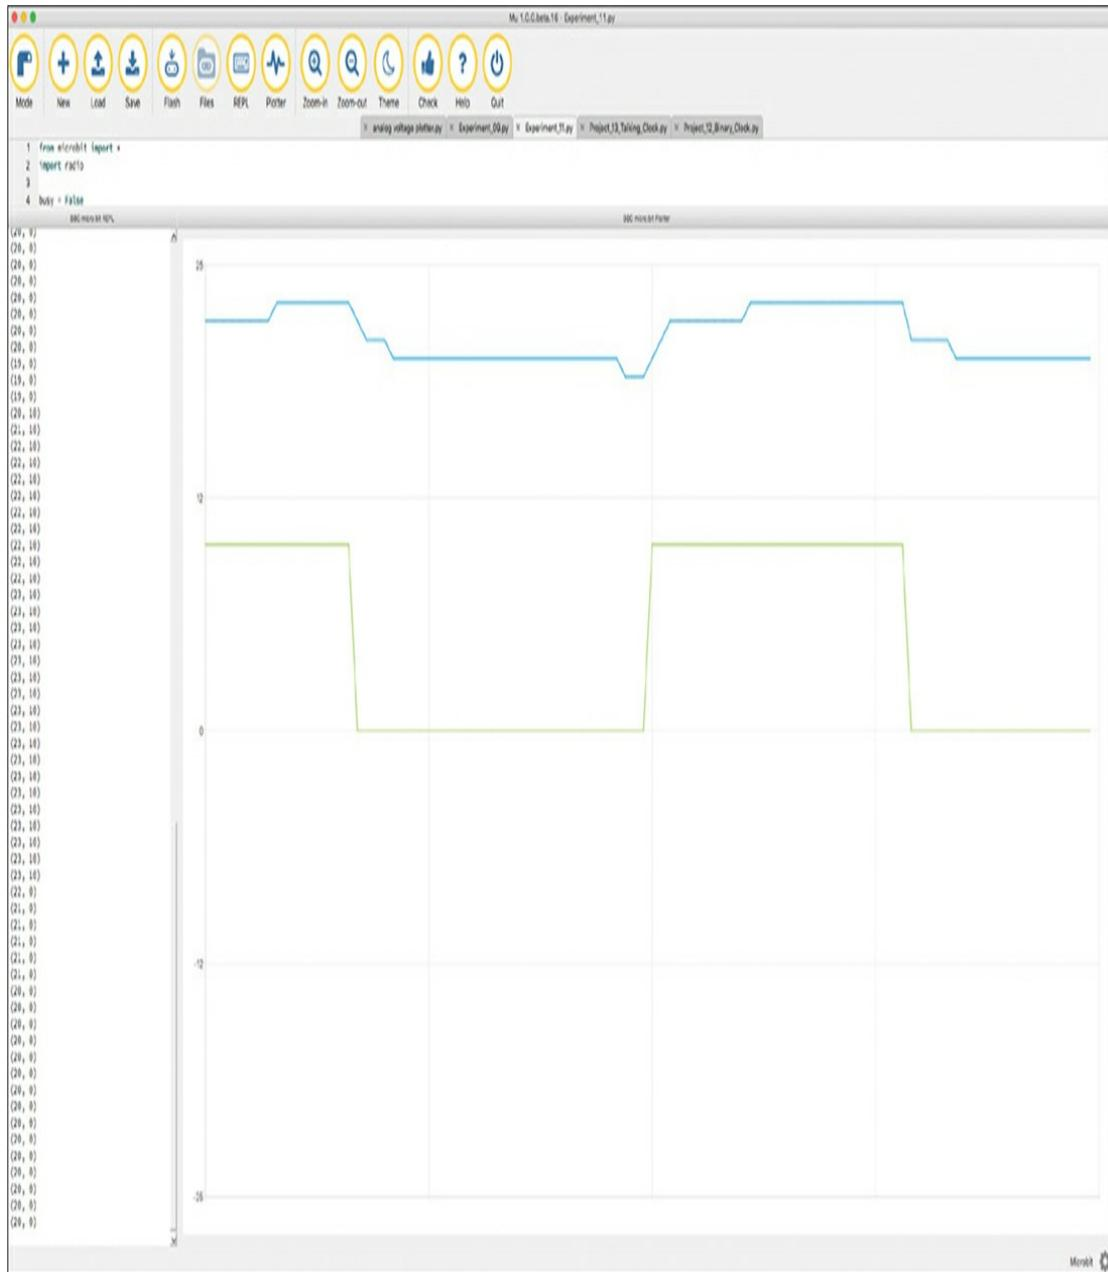

Figure 9-1: Plotting temperature readings and processor activity
2. Open both the REPL and Plotter views of Mu and press **Reset** on the micro:bit to start the reading process. A new temperature reading, and an indication as to whether the micro:bit has been busy or idle, are logged to the Plotter and REPL every 20 seconds. The busy/idle status of the micro:bit flips every 10 minutes. Figure 9-1 shows the result of logging the data for 40 minutes.
As you can see from Figure 9-1, when the micro:bit is in busy
To easily see when the processor is busy on the same plot as the temperature (Figure 9-1), we multiply the True or False Boolean value of `busy` by 10. Python allows us to do this! Rather than reporting an error, Python interprets False as 0 and True as 1. Because Python treats the Boolean values as numbers, it lets us multiply them. Then, instead of being either 0 or 1, the value is plotted as either 0 or 10.